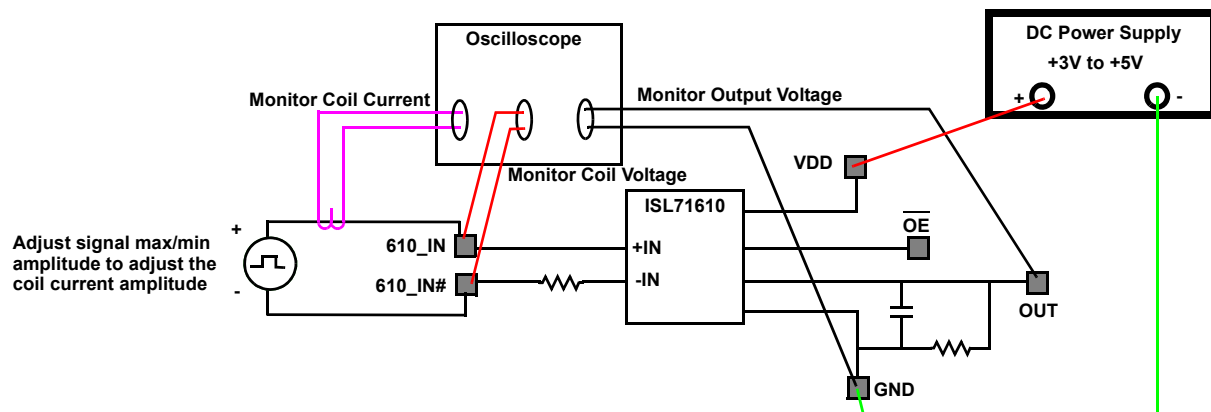

Figure 2. ISL71610M Basic Evaluation Test Setup Block Diagram
- (1) Configure the board as shown in Figure 2.
- (2) Use the signal generator drive a +2V to -2V signal into the coil using the 610\_IN and 610\_IN# inputs. Observe the coil current with the oscilloscope and adjust the +V and -V levels of the generator to adjust the coil current level. Look at the voltage across the IN to IN# test points to make timing measurements as the current probe display may lag in time.
- (3) Connect and turn on a 3V to 5.5V power supply to the output.
- (4) Observe the coil voltage input to the voltage output relationship, moving the pair of jumpers from the inverting (INV) to non-inverting (NINV) set of connectors allows you to see the inverting or non inverting input to output waveform relationships.